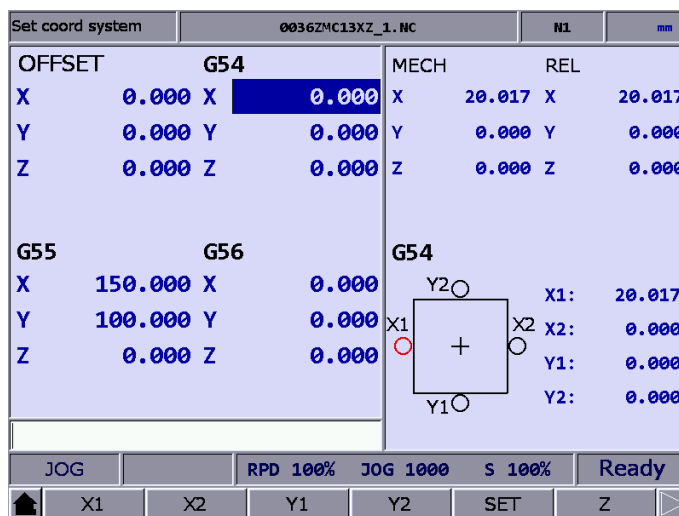

Figure 8.1.1.1
- (7) Press **X1** and the circle on the left side of the rectangle becomes red, as shown in Figure 8.1.1.1, meaning the machine coordinates of the first point is recorded.
- (8) Continue to move the machine axis to the other contact point of the workpiece in X-axis direction.
- (9) Press **X2** and the circle labeled as X2 in Figure 8.1.1.1 becomes red, meaning the machine coordinates of the second point is recorded.
- (10) Press **SET** and the system automatically calculates the central point between the machine origin and the workpiece position in X-axis direction and sets this point as the center of X axis in the coordinate system, which is the workpiece origin of X axis.